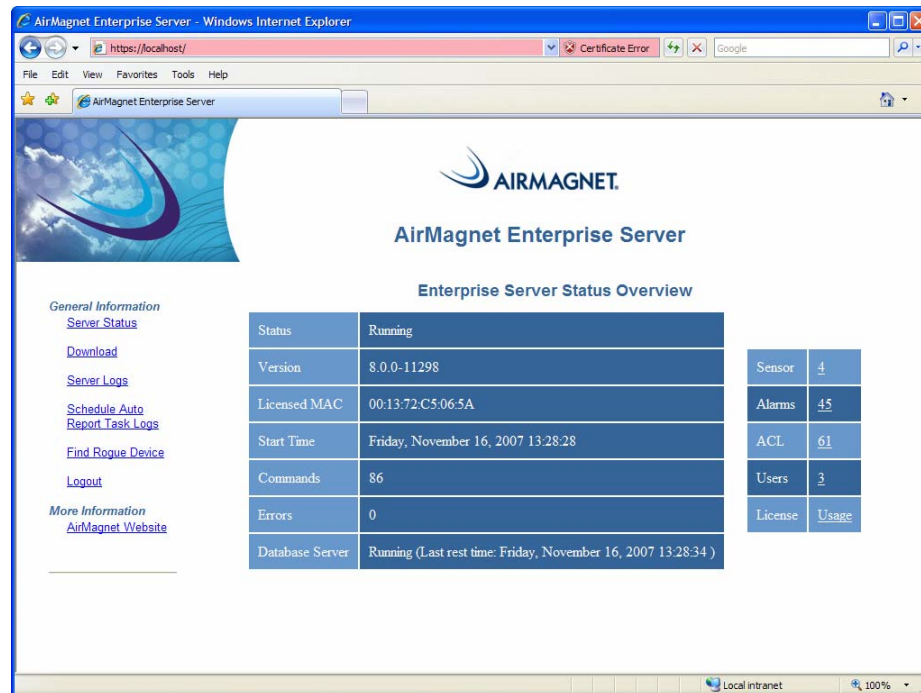

Figure 2-10: AirMagnet Enterprise Server page
- 3) If a Security Alert page appears, click **Yes** to continue. The AirMagnet Enterprise Server Web page appears. See Figure 2-10.